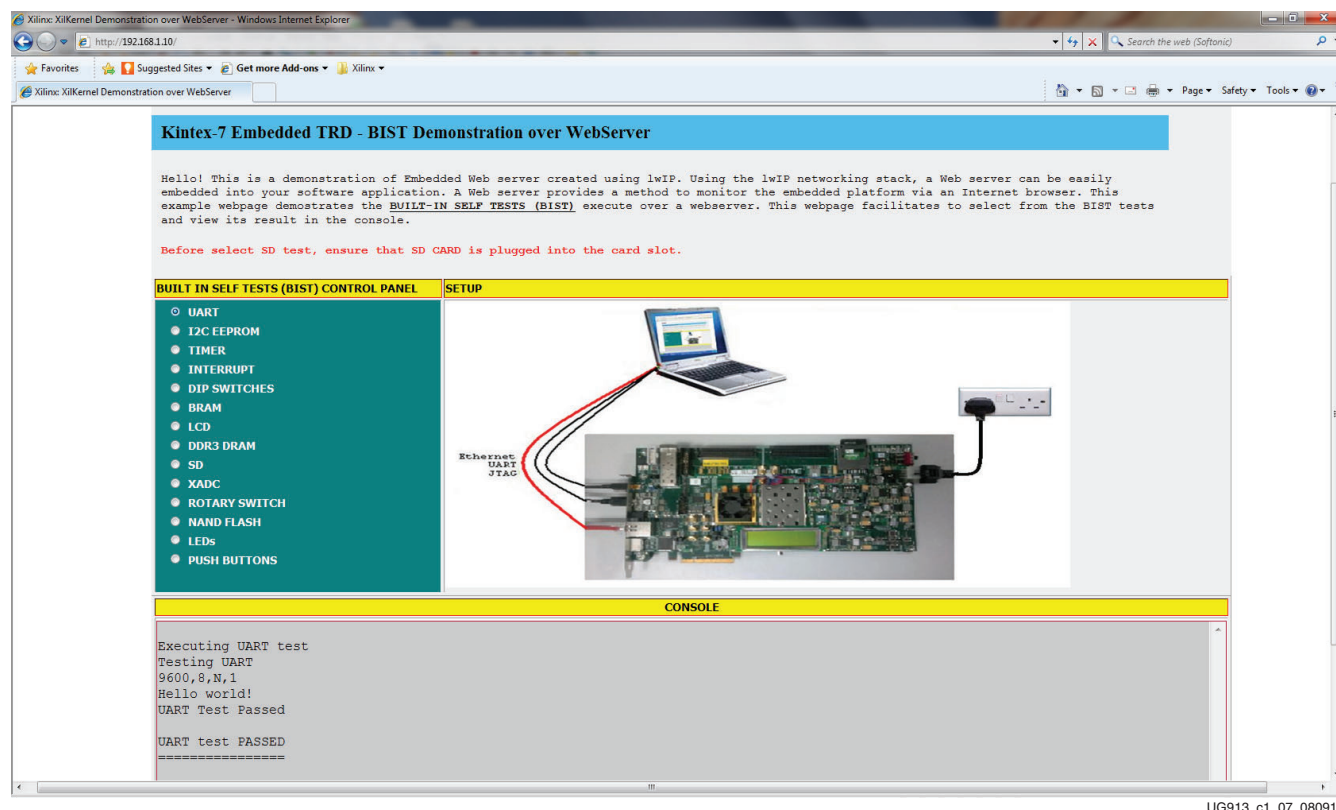

Figure 1-7: BIST Demonstration Web Page with DDR3 test results
11. Reload the Web page with the same URL (192.168.1.10). The Web page should appear as shown in Figure 1-7.